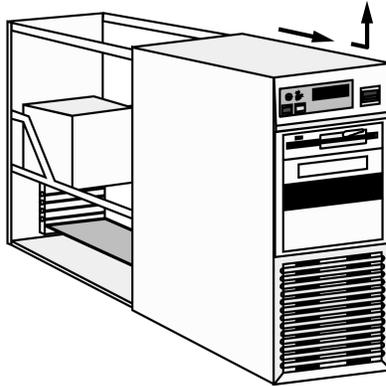

Figure 8: Removing a Typical Computer's Cover
2. Remove your computer's cover, following the directions provided by your computer's manufacturer. Typically, this involves loosening or removing several screws on the back panel of your computer and sliding off the cover. See Figure 8 for details.
2. If you haven't already removed your computer's cover, remove it now, following the directions provided by your computer's manufacturer. Typically, this involves loosening or removing several screws on the back panel of your computer and sliding off the cover. See Figure 8 for details.